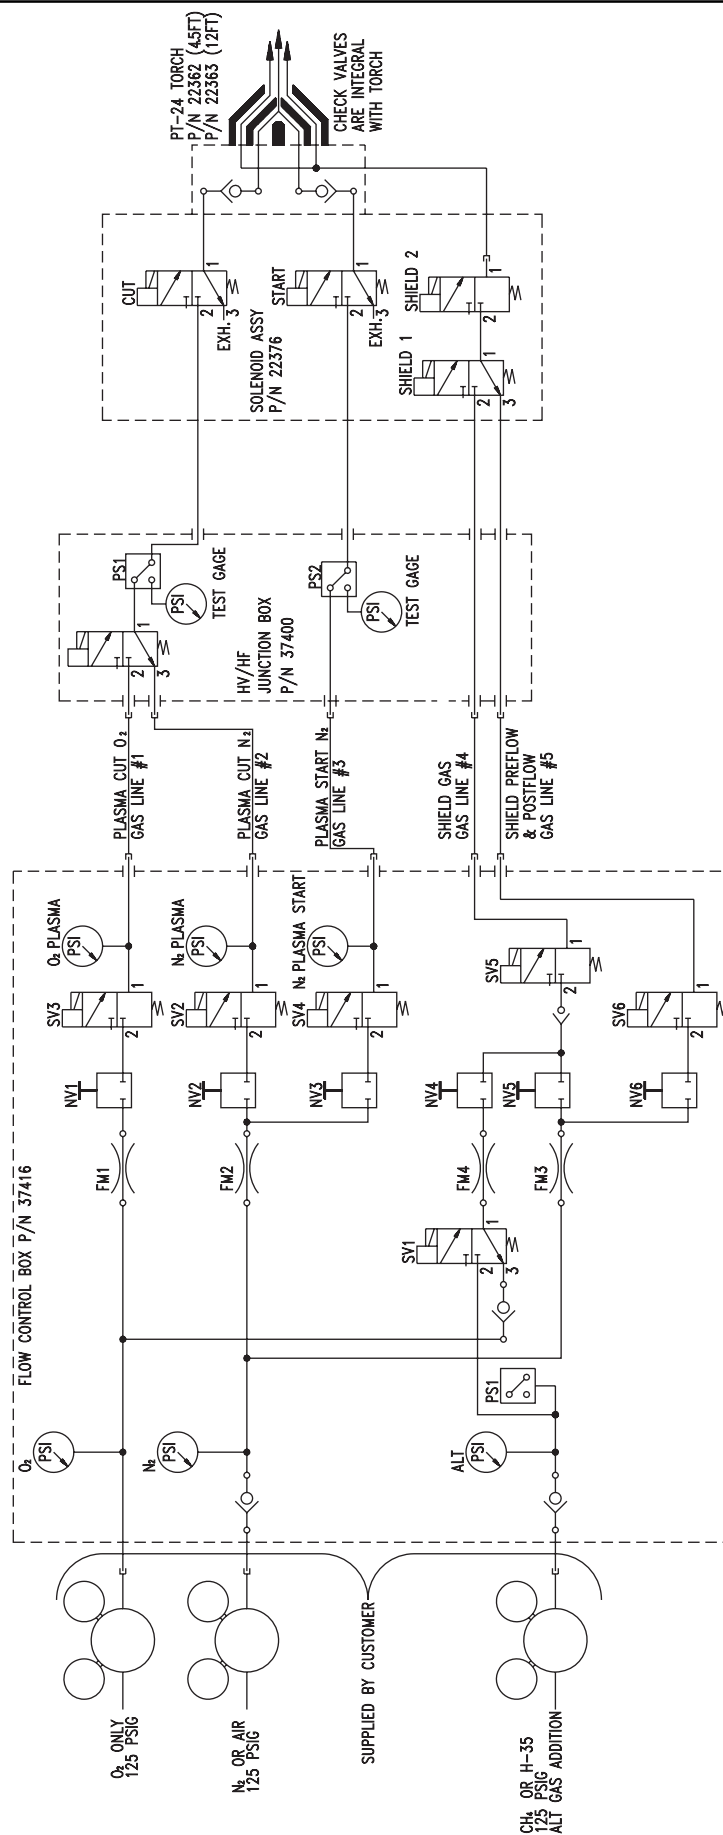

Figure 6-2. Schematic Gas Flow
- D. **Plasma Cut and Start Gas.** These gases enter the torch through connections that house check valves within the torch body. The valves acting in conjunction with solenoid valves control the back and forth switching of start and cut gases. See Figure 6-2 for further explanation of this system.